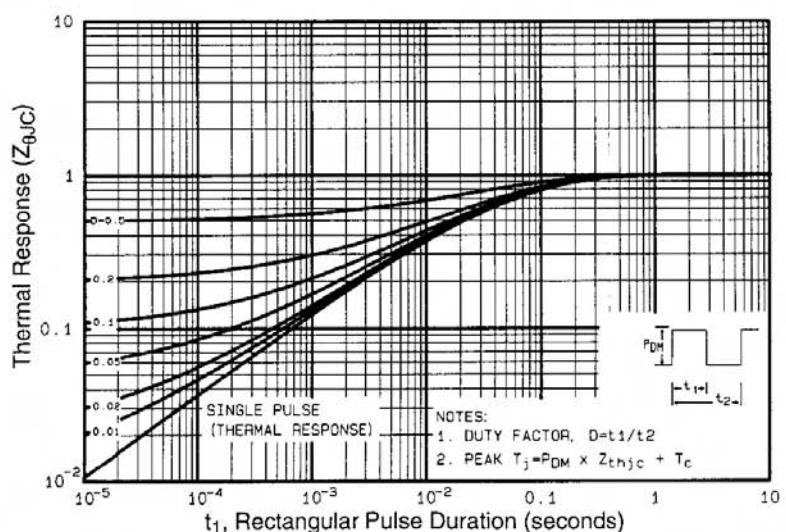

Fig 11. Maximum Effective Transient Thermal Impedance, Junction-to-Case
① Repetitive rating; pulse width limited by max. junction temperature (See Figure 11)
③ $I_{SD}\leq 10\text{A}$, $dI/dt\leq 120\text{A}/\mu\text{s}$, $V_{DD}\leq V_{(BR)DSS}$, $T_J\leq 150^\circ\text{C}$
② $V_{DD}=50\text{V}$, starting $T_J=25^\circ\text{C}$, $L=9.1\text{mH}$